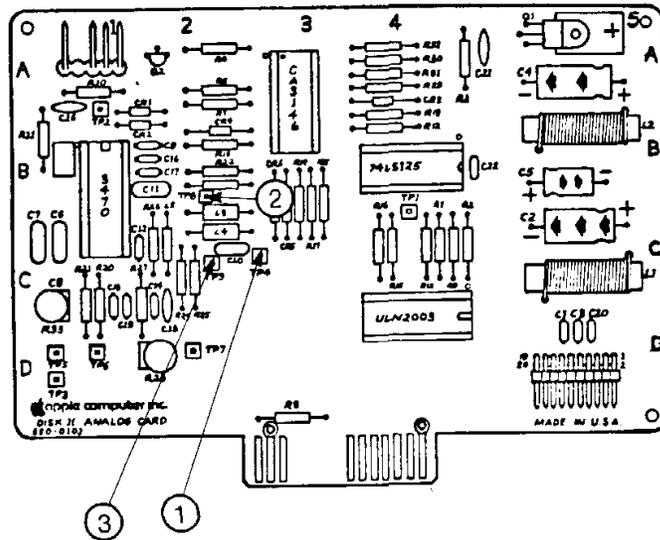

FIGURE 19
15. The ground is already on TP4 and the scope probe is on TP8. (Figure 19, #'s 1 and 2). Adjust the level dial for a stable display. Also adjust the intensity dial so that you see only one trace.
16. Place the scope probe on TP9 (Figure 19, #3). Look at the scope display for the same amplitude.